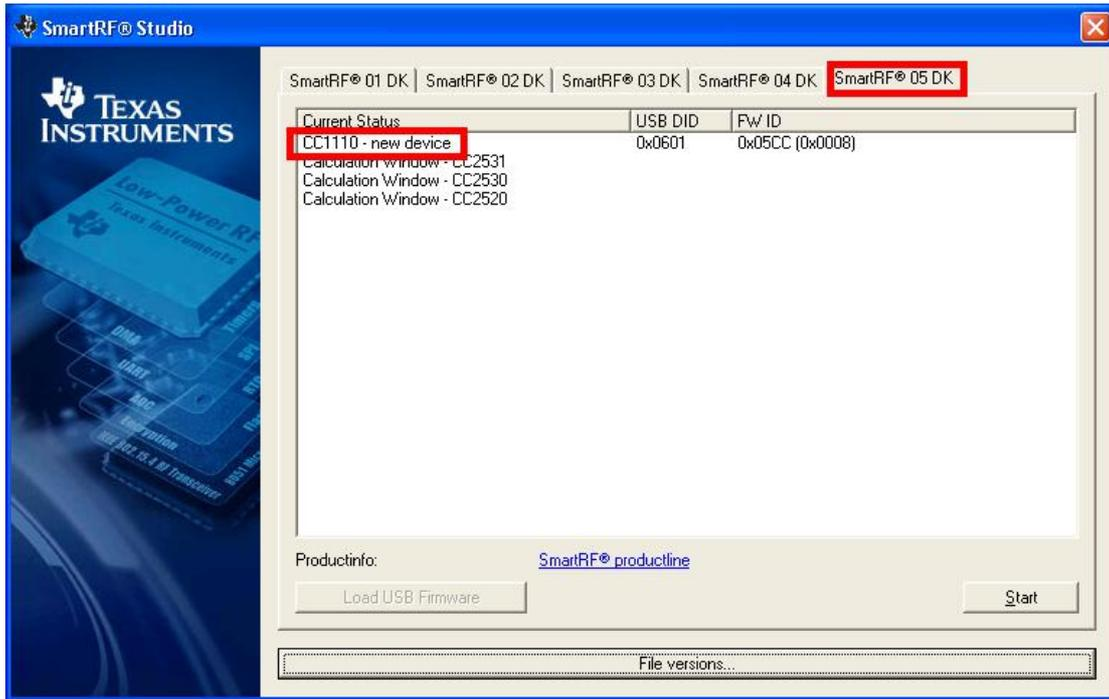
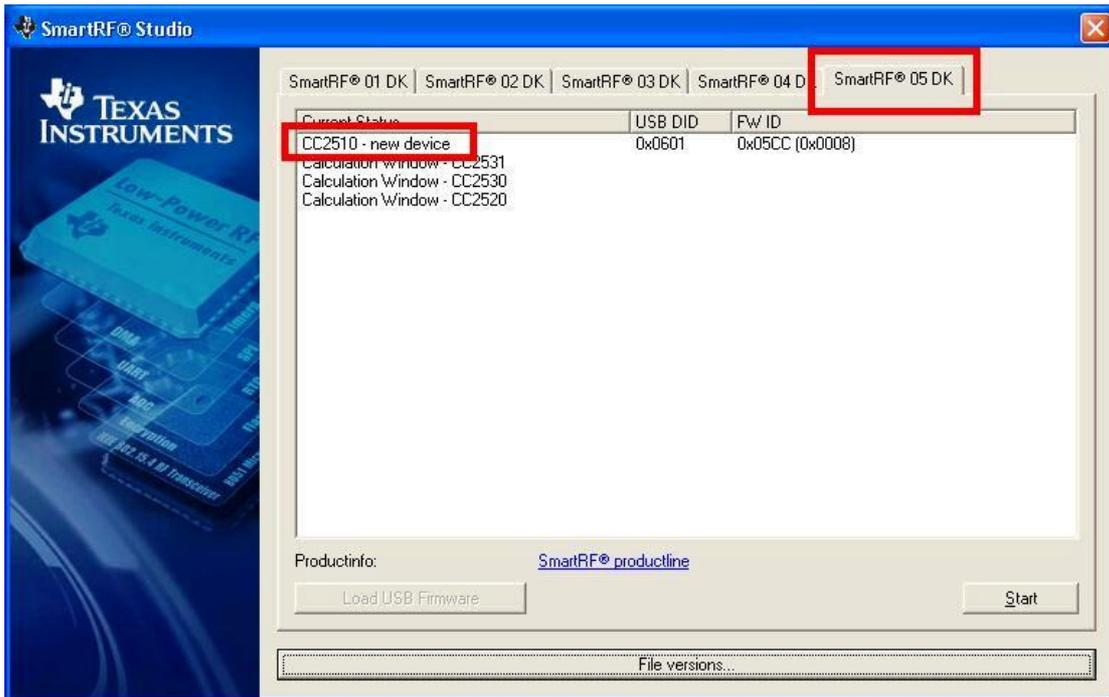
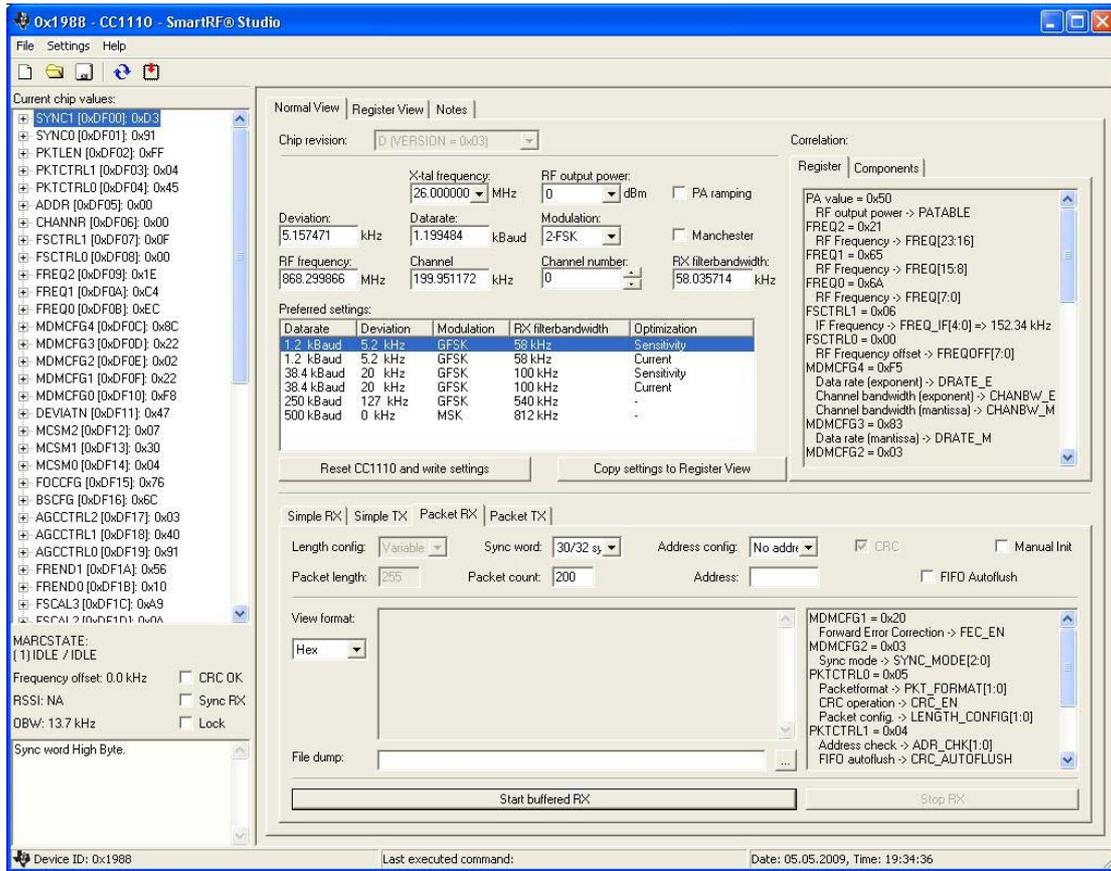
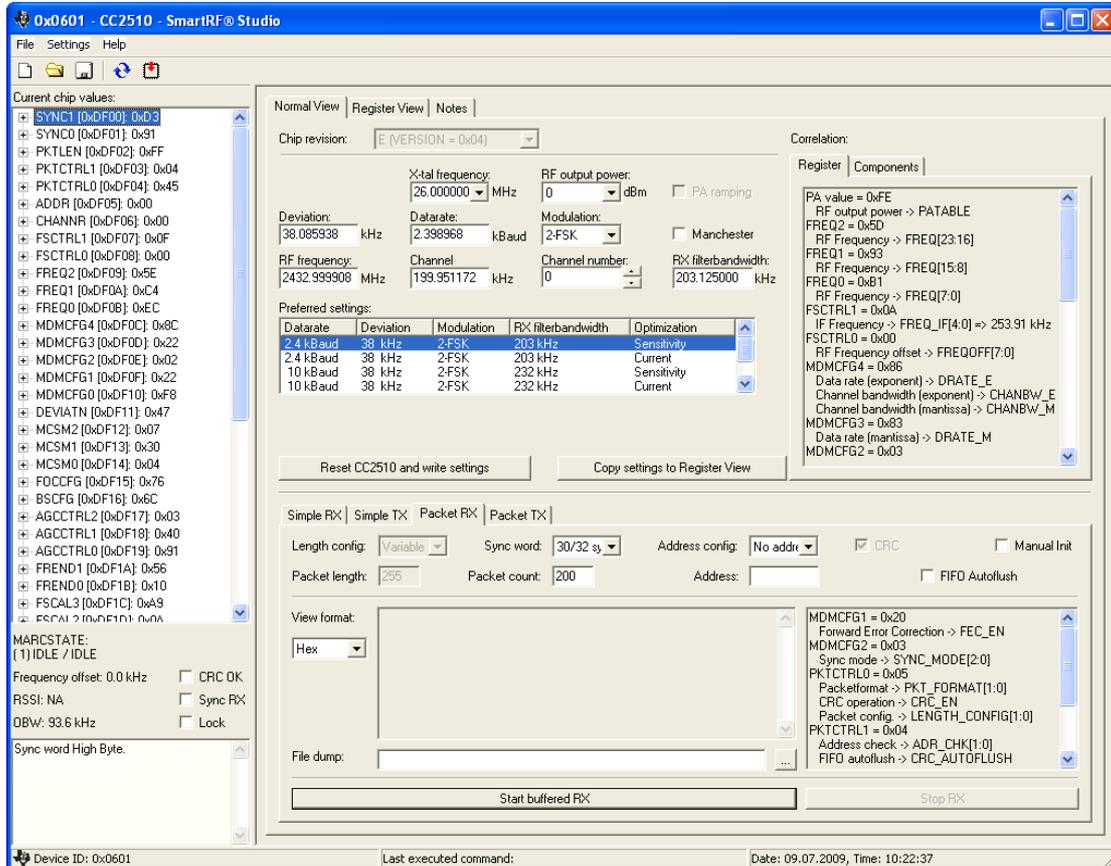

Figure 7-2 - Start window for the SmartRF CC1110 target board when starting SmartRF Studio
Figure 7-3 - Start window for the SmartRF CC2510 target board when starting SmartRF Studio
Figure 7-4 - Control window for the SmartRF CC1110 target board from SmartRF Studio
Figure 7-5 - Control window for the SmartRF CC2510 target board from SmartRF Studio
After starting SmartRF Studio and plugging the CC Debugger to the PC via USB, the window shown in Figure 7-2 or Figure 7-3 will appear depending on which board you have. Make sure you select the tab called SmartRF@05DK in the top part of the window. The connected SmartRF CC1110 or SmartRF CC2510 target board will be listed as “CC1110 – new device” or “CC2510 – new device” respectively. Double click on the new device item, and the window shown in Figure 7-4 and Figure 7-5 will appear. This is the main control panel for the CC1110/CC2510. In this window, settings can be changed, tests performed and registers adjusted.
- Double click on both of the devices in the device list in SmartRF Studio (Figure 7-2 or Figure 7-3), opening two windows, and giving control of the two radios at the same time.
- Select one device to be the transmitter, by selecting the “Packet TX” tab shown in the lower middle of Figure 7-4 and Figure 7-5.